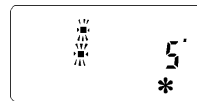

Fig. 2.
2. Switch off the water and control the heating to provide a constant low room temperature while the home is empty for extended periods. The display will appear as in Fig. 2. (N.B. When the unit switches the CH on, the HW will also switch on if the unit has been set for linked GRAVITY operation).